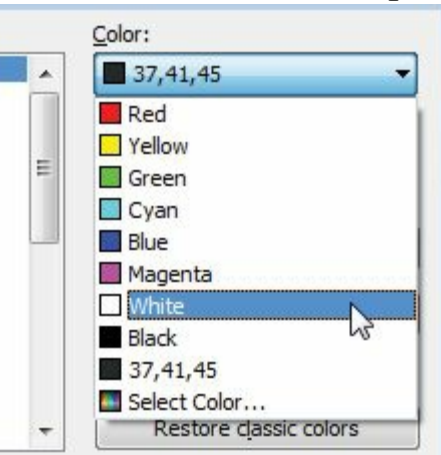

Figure-14. Color drop-down
- Select one of the backgrounds from **Interface element** list box, click on the drop-down for colors and select the **White** option; refer to Figure-14.